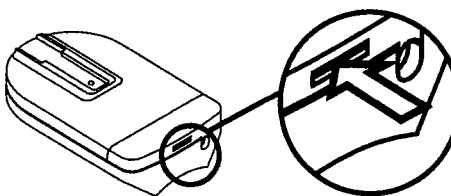

Fig. 2
Step 5-1 Turn Transmitter upside down **Fig. 2**.
- Gently push straight **IN** on Tab as shown **Fig. 2**.